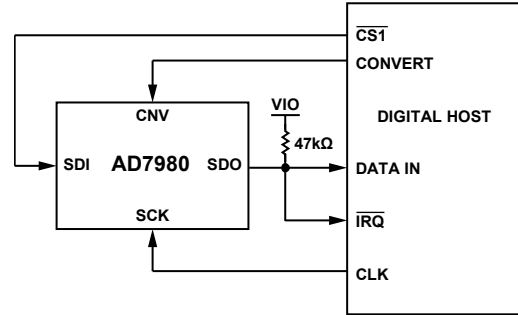
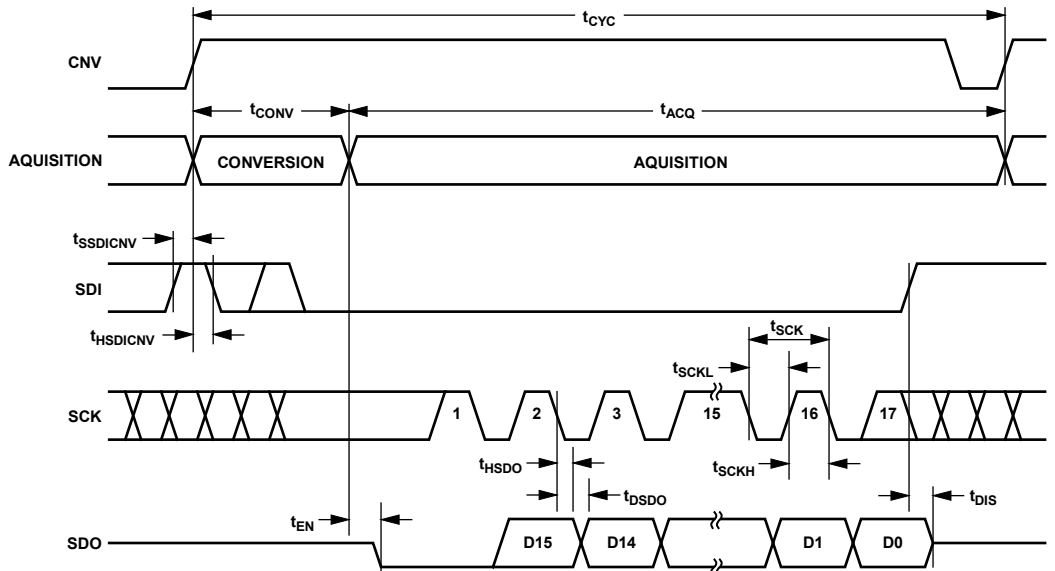

Figure 37. 4-Wire CS Mode with Busy Indicator Connection Diagram
Figure 38. 4-Wire CS Mode with Busy Indicator Serial Interface Timing
- In the $\overline{\text{CS}}$ mode if CNV or SDI is low when the ADC conversion ends (see Figure 34 and Figure 38).
The connection diagram is shown in Figure 37, and the corresponding timing is given in Figure 38.